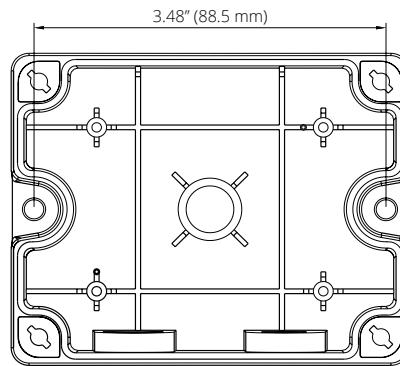

Figure 8 Mounting Hole Location for Surface Mount
1. Drill two screw holes according to the locations shown in the Figure 8 below. Ensure the sensor is levelled and the sensor probe is pointed down and perpendicular to the ground.